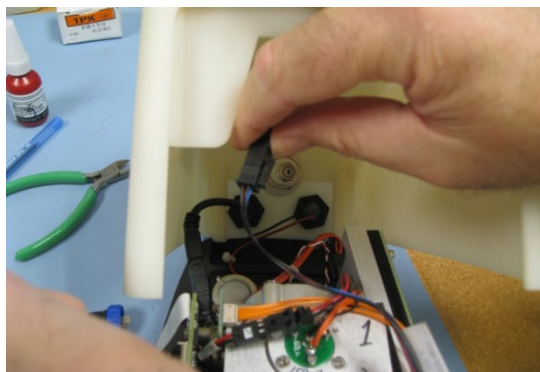

Figure 25. Disengaging the power harness.
- 3 Disengage the power harness from the instrument. The power harness is identifiable by its 4-pin connector and the blue, black and red wires (see Figure 25).